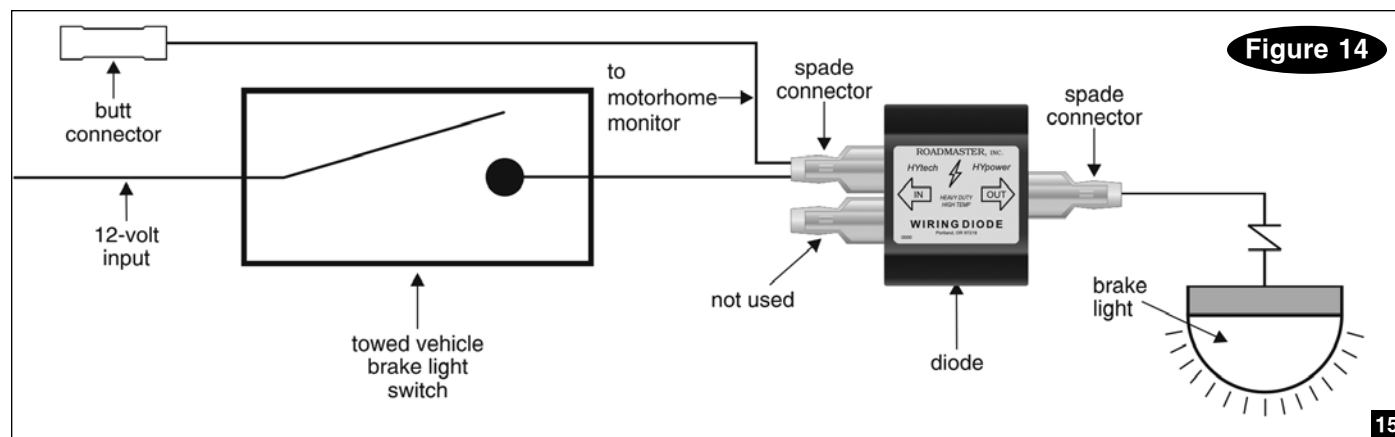

Figure 14
3. Install the diode in line, as shown in Figure 14.
1. After you have installed a diode downstream from the brake light switch (Figure 14), wire the vehicle's turn signals, taillights and brake lights for towing by installing six diodes.